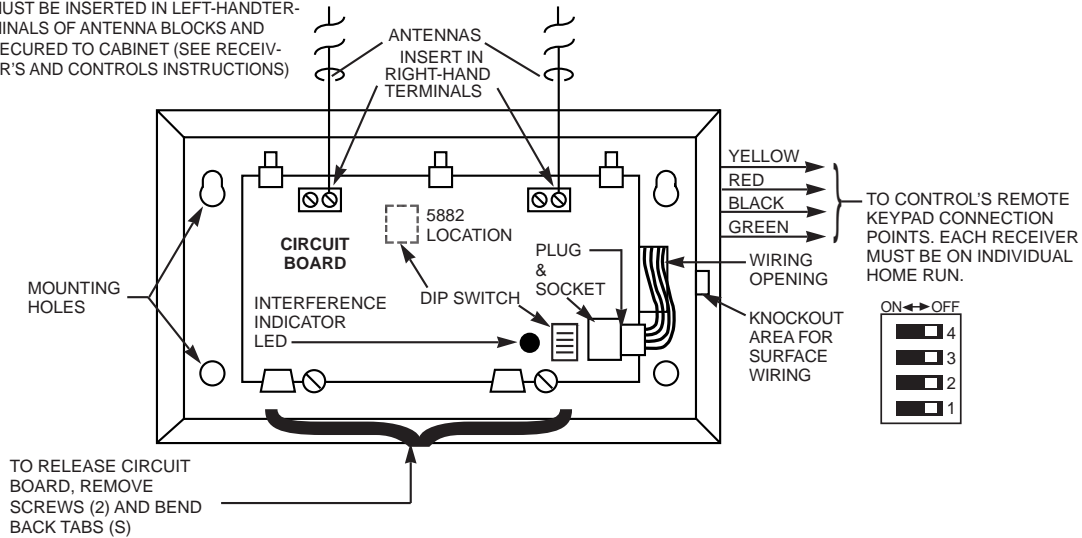

Figure 8. 4281, 5881, & 5882 Series Wireless Receivers (cover removed)
2. Make sure that the receiver's DIP switches are set for device address "0", as shown in Figure 8 (all switches to the right...OFF).
3. Connect the receiver's wire harness to the control's keypad terminals (4, 5, 6, and 7). Plug the connector at the other end of the harness into the receiver (see Figure 8).